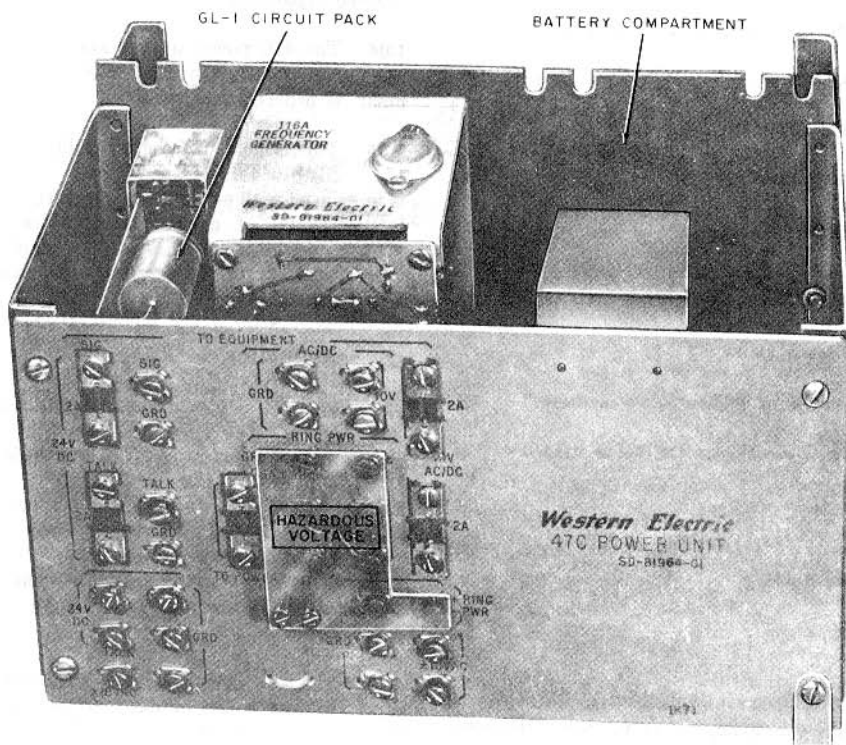

Fig. 1—47C Power Unit
1.01 The 47C power unit (Fig. 1) is intended to provide emergency power for Key Telephone Service installations during commercial power failures. The power supplied to the Key Telephone Service installations is used for switching circuits, lamps, and an interrupter.